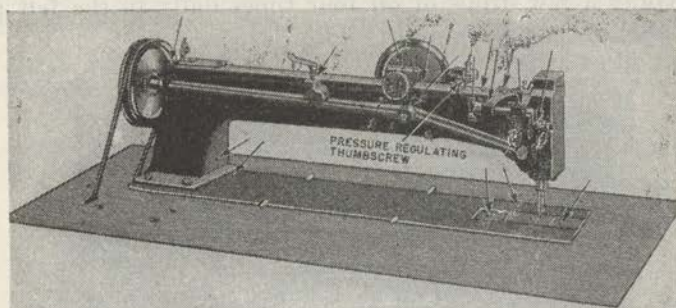

FIGURE 87.—Rear view of machine, showing oiling points.
(2) To lengthen the stitch, turn the feed-regulating spindle toward the body; to shorten the stitch, turn it from the body.
q. To regulate pressure on material.—To increase the pressure, turn in the thumbscrew at the back of the machine (fig. 87). To decrease the pressure, turn this thumbscrew out. The pressure on the material should be sufficient only to enable the feed to move the work along evenly.